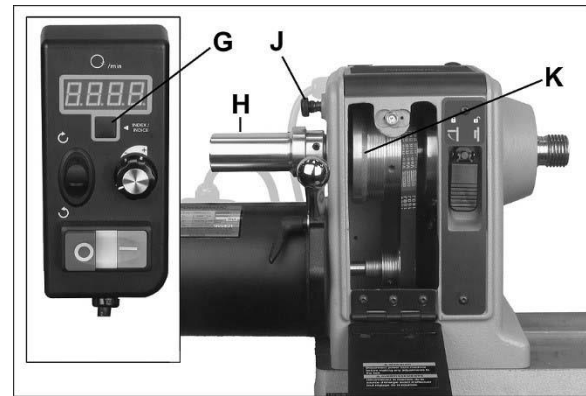

Figure 8-4: indexer
The indexer has 24 evenly spaced holes concentric to the spindle, and is used to create evenly spaced features in a workpiece, while keeping the lathe spindle locked; for example, when cutting flutes on a spindle blank with a router, while the spindle blank is secured between lathe centers. Numbers 1 through 24 are inscribed on top sheave (K, Figure 8-4) for reference. When lathe is powered, however, the LED display can be used for rapid locating of index positions, as follows.
2. Push index button (G, Figure 8-4). The LED display will change from RPM setting to index setting.
3. Use handwheel (H) to rotate workpiece to desired position.
4. Push in index pin (J, Figure 8-4) and rotate workpiece slightly until pin engages hole. Then screw index pin (J) further into headstock to lock spindle.
6. Push index button (G) to set engaged index position at zero.
7. Unscrew index pin (J) to release spindle, then rotate workpiece until next desired hole shows on readout.